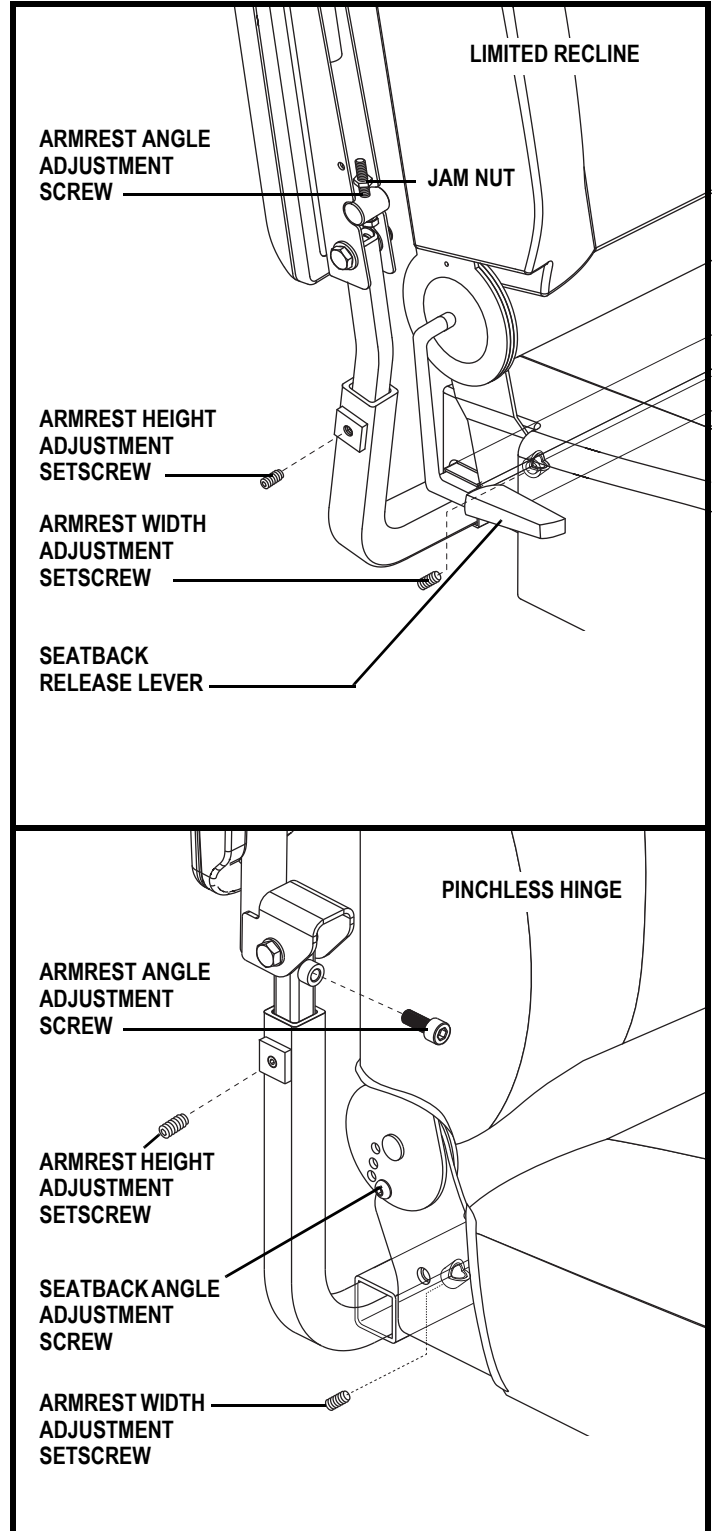

Figure 12. Armrest and Seatback Adjustments
If your power chair is equipped with a recline seatback, you can adjust the seatback angle using either hardware or the seatback release lever. See figure 12.
1. Locate the armrest width adjustment setscrew on each side of the armrest receiver bracket. See figure 12.
1. Loosen the setscrew on the armrest. See figure 12.